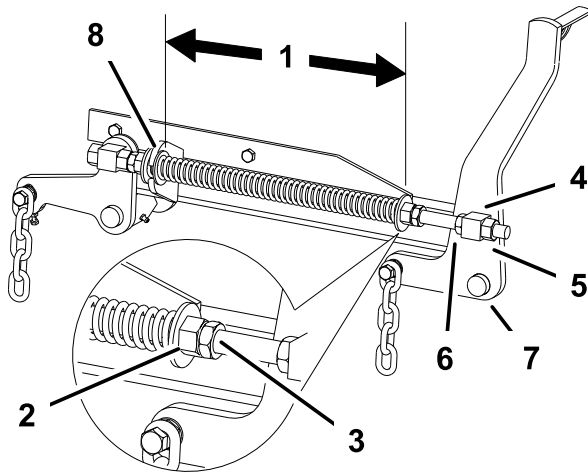

Figure 79
2. Check the distance between the two large washers, it needs to be 11-1/2 inches (29.2 cm) (Figure 79).
3. Adjust this distance, by loosening the spring jam nut and turning the nut in front of each spring (Figure 79). Turning the nut clockwise will shorten
4. Lock the nut into position by tightening the spring jam nut (Figure 79).